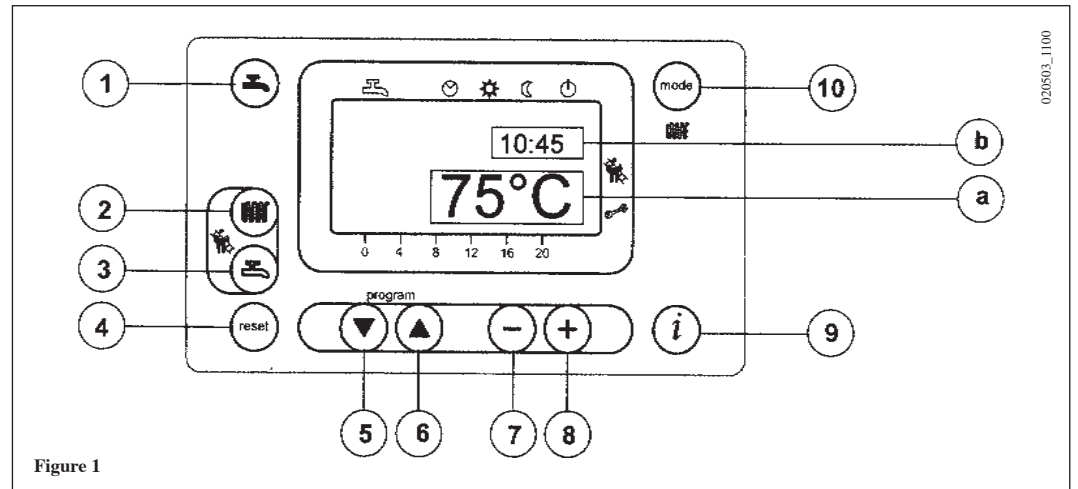

Figure 1
- Press the  key (2-figure 1) to set the central heating water temperature;
- press either of the   keys (1 or 10 - figure 1) to save and return to the main menu.
N.b – With the outdoor sensor probe connected, the  key (2 - figure 1) can be used to shift the central heating curve. Press the   keys to decrease or increase the room temperature in the premises to be heated.
- Press the  key (3-figure 1) to set the maximum domestic hot water temperature;
The fault warnings appear on the main display (figure 1 a) together with the  symbol (Figure 4).